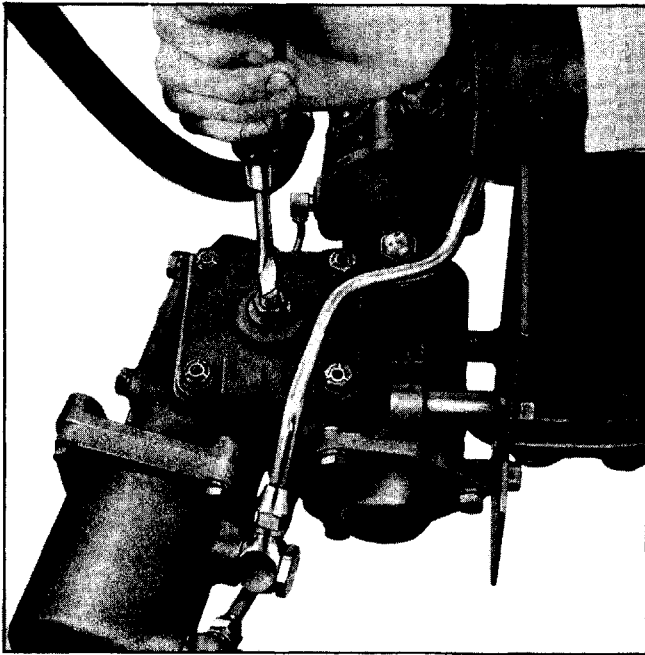

Fig. 9-27 Adjusting Pitman Shaft End Play
4. With steering gear "on center", adjust pitman shaft thrust screw (Fig. 9-27) so that pull on steering wheel rim through a 3" arc using J-544-A spring scale, is 1 to 1¼ lbs. through center. Turning screw clockwise increases pull, counterclockwise decreases pull.